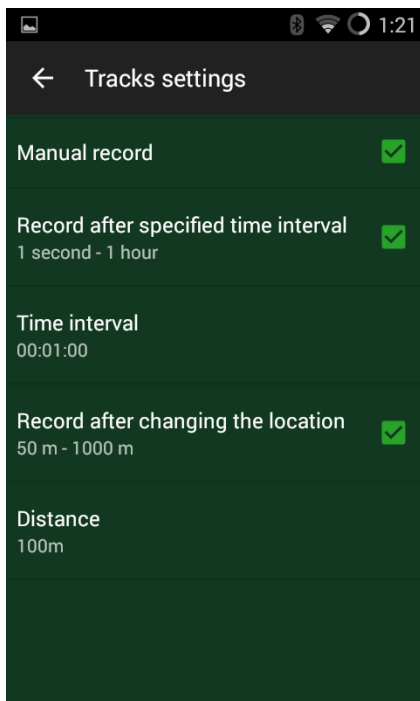

Figure 2.71 – Tracks settings
2. Tracks - you can view or change tracks recording parameters (see Fig. 2.71), namely: